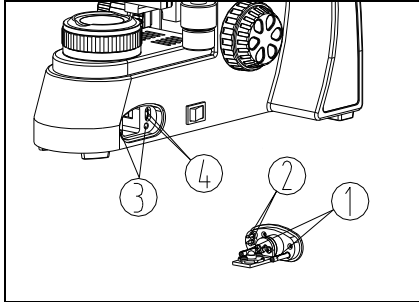

Fig. 7
1. Align the oriented pin① and power pin② on the light source to oriented holder③ and power socket④, and then push light source into arm smoothly and plug it thoroughly (see Fig. 7).